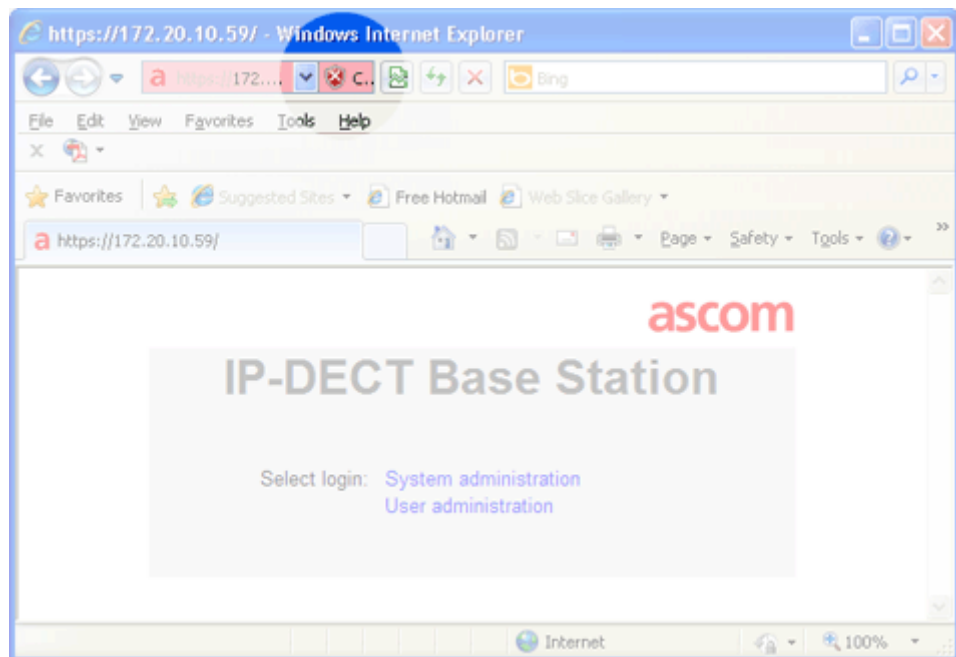

Figure 34. Screenshot of the login window, with the "Security Status" bar highlighted.
- 3 Click on the "Certificate Error" notification in the Security Status bar (next to the Internet Explorer Address bar), see Figure 34. The Security Report window will appear,